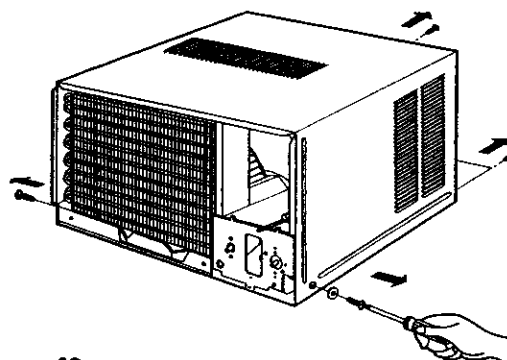

Figure 42
3. Pull the base pan forward. (See Figure 42)